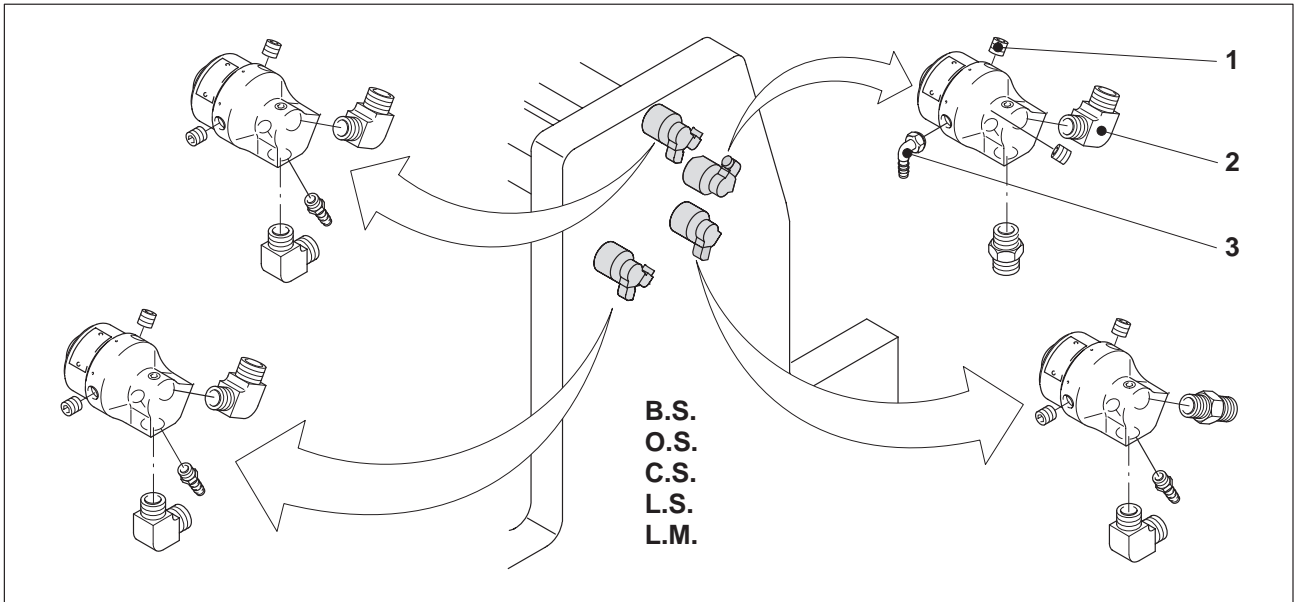

Fig. 5 Mounting the connection pieces
- 7 Screw in both straight and elbow connection pieces (Fig. 5/2), the leakage pieces (Fig. 5/3) and the screw plugs (Fig. 5/1) according to Fig. 5.